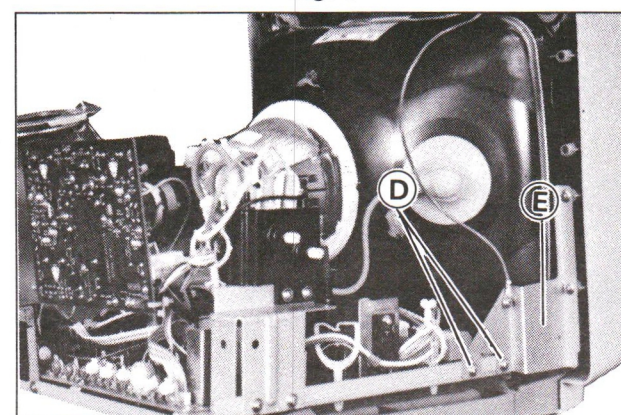

Fig. 4
3. Remove the two screws marked (D) in Fig. 4.
- remove the bracket marked (E) in Fig. 4.